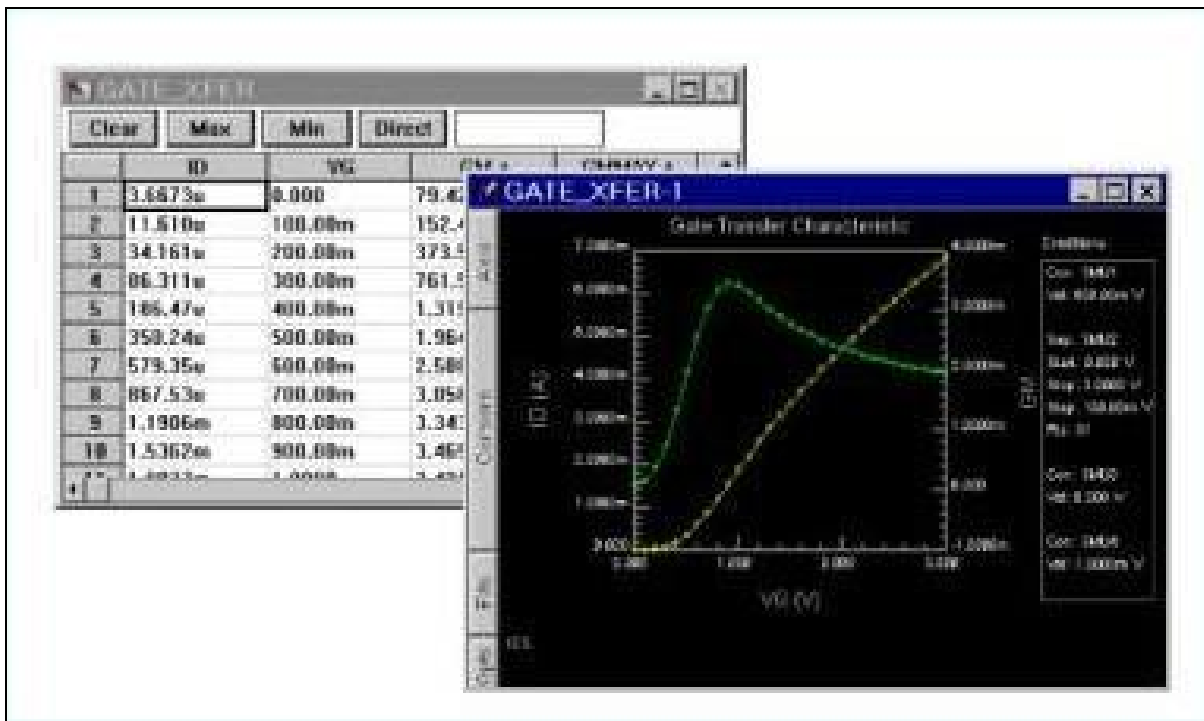

Figure 10
9.3.2.9 The transform editor is used to automatically extract parameters from the current measurement. The extracted parameter will be saved in the raw data file (Figure 10).